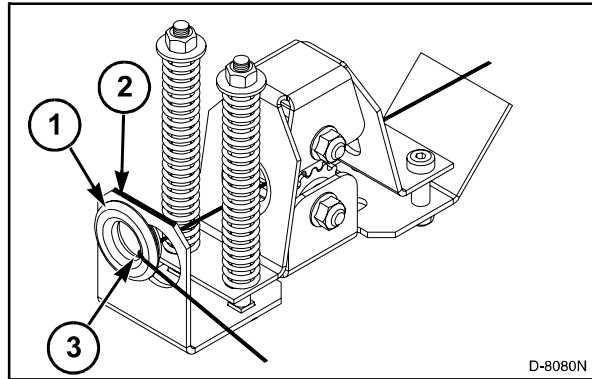

FIG. 40
FIG. 40: Adjust the twine guides (1) so the twine goes through the center of the tensioner rolls. Remove the snap ring (2) and put the guide in either the right-hand or the left-hand hole. The side of the guide the twine is following around must be to the center of the bracket (3). Install snap ring.